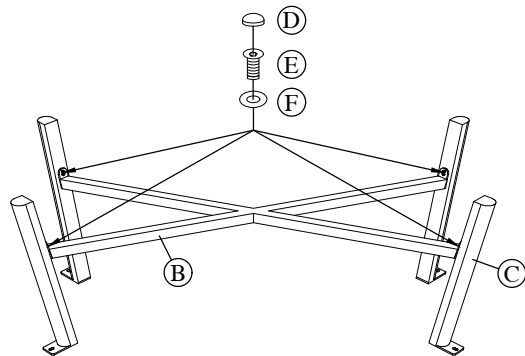

Figure 1
Step 2: Attach the leg connector bracket to the legs by using the 1/4"x18 mm bolts(E) and Ø6.5x1.0 mm washers(F) as shown in Figure 1. Guide the bolts through the holes in the leg connector bracket and table leg. **Hand tighten 2-3 revolutions only.** Repeat for the other sides.